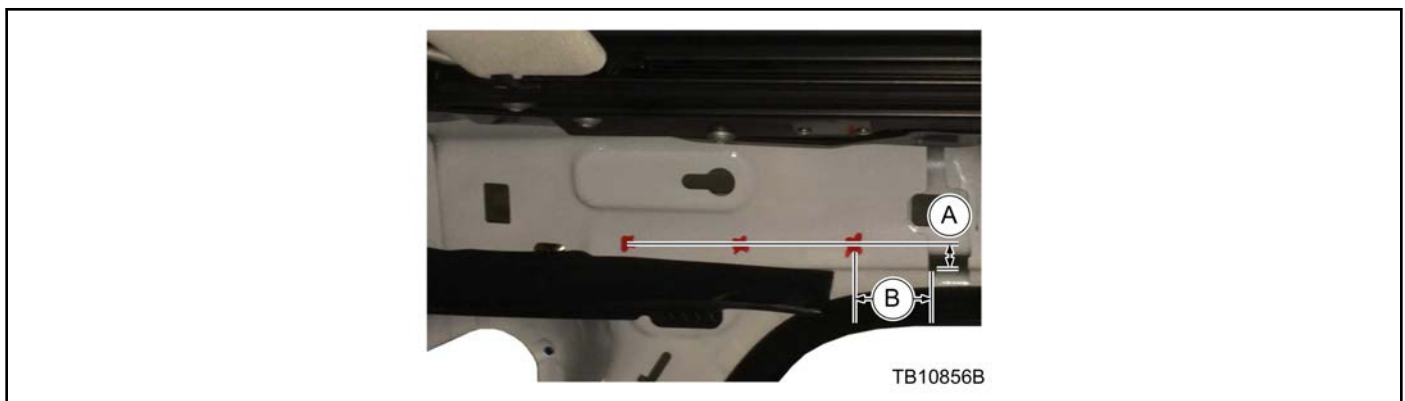

Figure 2 - Article 16-0053
2. Measure 15 mm (19/32”), mark dimension A and draw a line across. (Figure 2)
3. Measure 50 mm (2”), mark dimension B across the line drawn in step 2. (Figure 2)